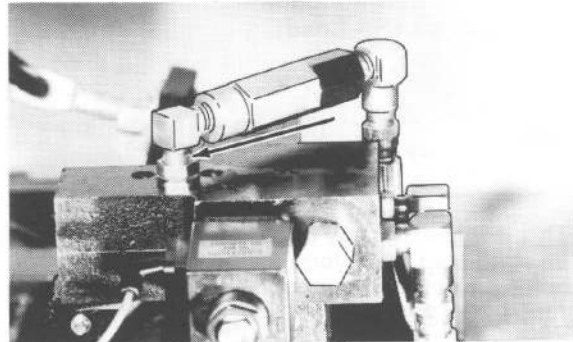

Figure 1-9
6. Install hydraulic fitting as shown, allow at least two threads to be exposed above the jam nut when tight. See Figure 1-9.
7. Attach the hydraulic hose. See Figure 1-9.